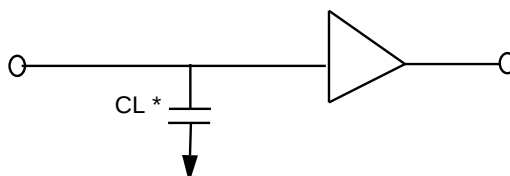

Figure 1. Output Load (* includes scope and JIG capacitance)
Output load	See Figures 1 and 2
6. The following parameters are measured using the load shown in Figures 1 and 2.
- (A) t_{COE} , t_{OEE} , t_{BE} , $t_{OE\overline{W}}$... Output Enable Time
- (B) t_{COD} , t_{ODO} , t_{BD} , $t_{OD\overline{W}}$... Output Disable Time